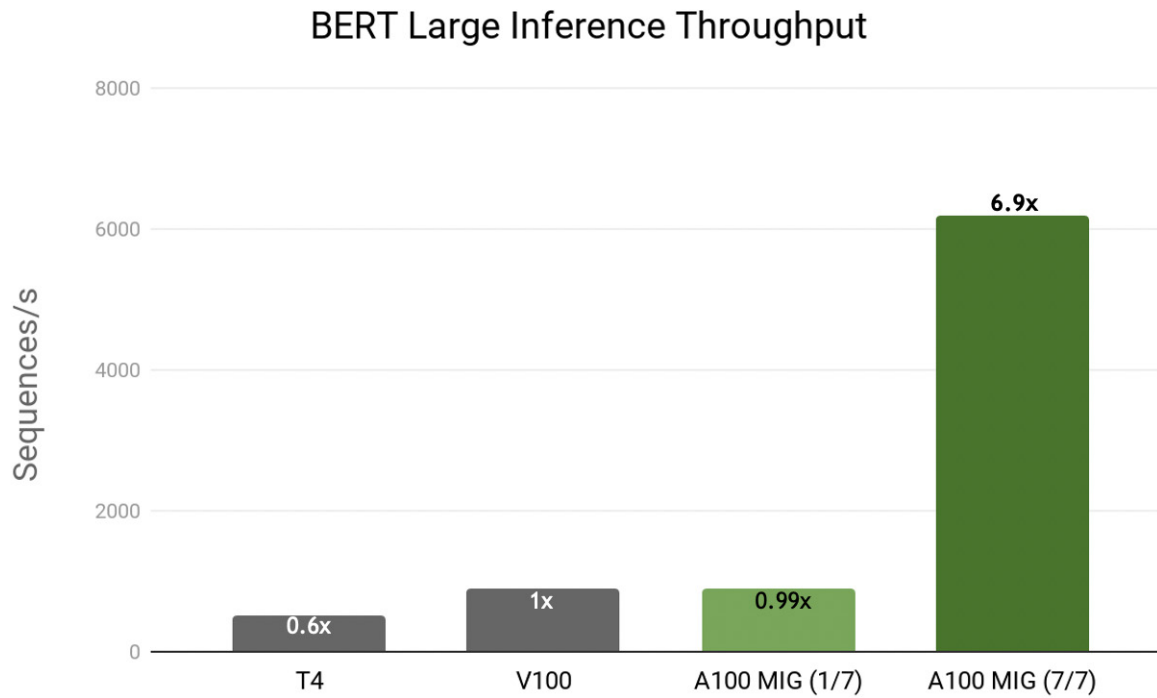

Figure 7. Up to 7X Higher Inference throughput with Multi-Instance GPU (MIG)¹
The NVIDIA A100 GPU incorporates a new partitioning capability called Multi-Instance GPU (MIG) for increased GPU utilization. MIG uses spatial partitioning to carve the physical resources of a single A100 GPU into as many as seven independent GPU instances. With MIG, the NVIDIA A100 GPU can deliver guaranteed quality of service at up to 7 times higher throughput than V100 with simultaneous instances per GPU (Figure 7).
1. Refer to Details for Figure 7: Inference Throughput with MIG on page 19 for more details.